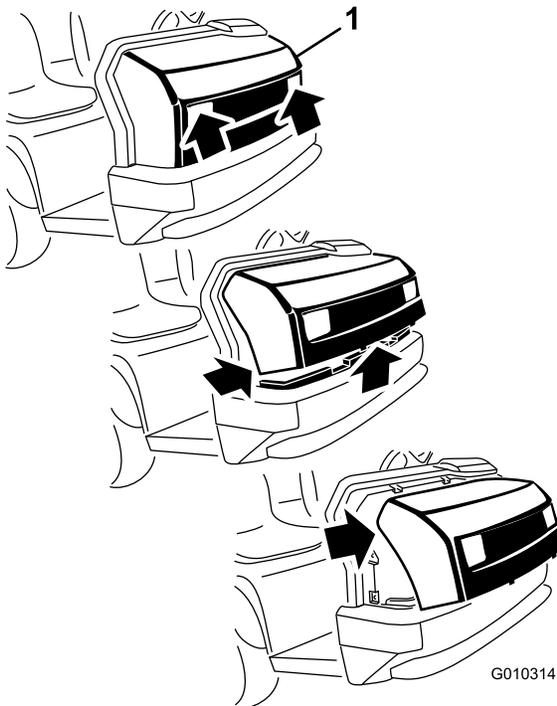

Figure 30
1. While grasping the hood in the headlight openings, lift up on the hood to release the lower mounting tabs from the frame slots (Figure 30).
2. Pivot the bottom of the hood upward until the top mounting tabs can be pulled from the frame slots (Figure 30).
3. Pivot the top of hood forward and unplug the wire connectors from the head lights (Figure 30).